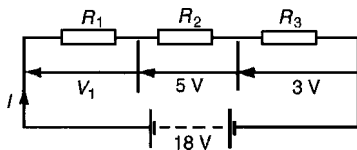

Figure 5.9
- For the circuit shown in Fig. 5.9, determine the value of V_1 . If the total circuit resistance is 36Ω determine the supply current and the value of resistors R_1 , R_2 and R_3